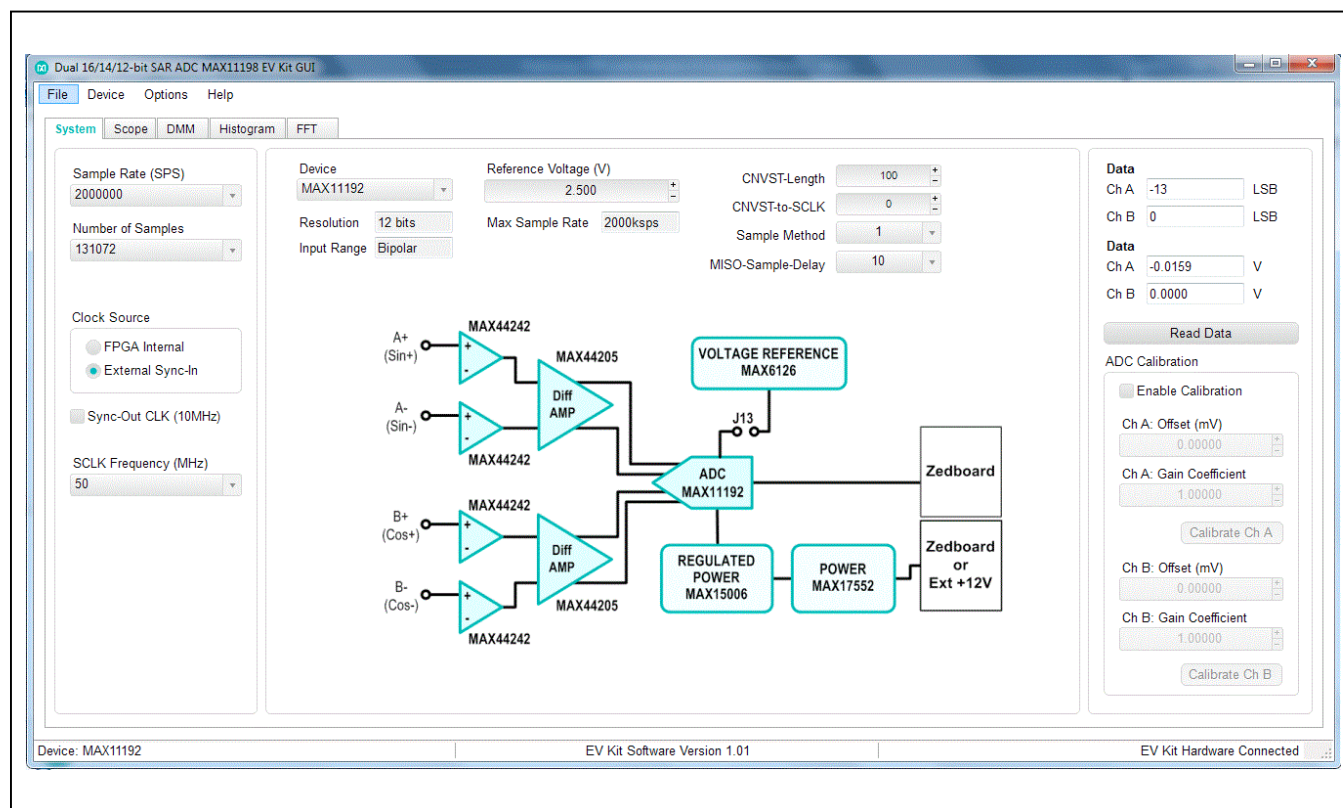

Figure 1. EV Kit Software (Configuration Tab)
- 9) Start the EV kit software by opening its icon in the **Start | Programs** menu. The EV kit software appears as shown in Figure 1. From the **Device** menu select **FPGA**. Verify that the lower left status bar indicates the EV Kit hardware is **Connected**. The following configuration is used to verify functionality of simultaneous sampling of the same signal from signal generator applied to both channels.
- 16) The EV kit software appears as shown in Figure 1.
The **Read Data** information is displayed on the right, which shows the data in both voltage and LSB, see Figure 1.